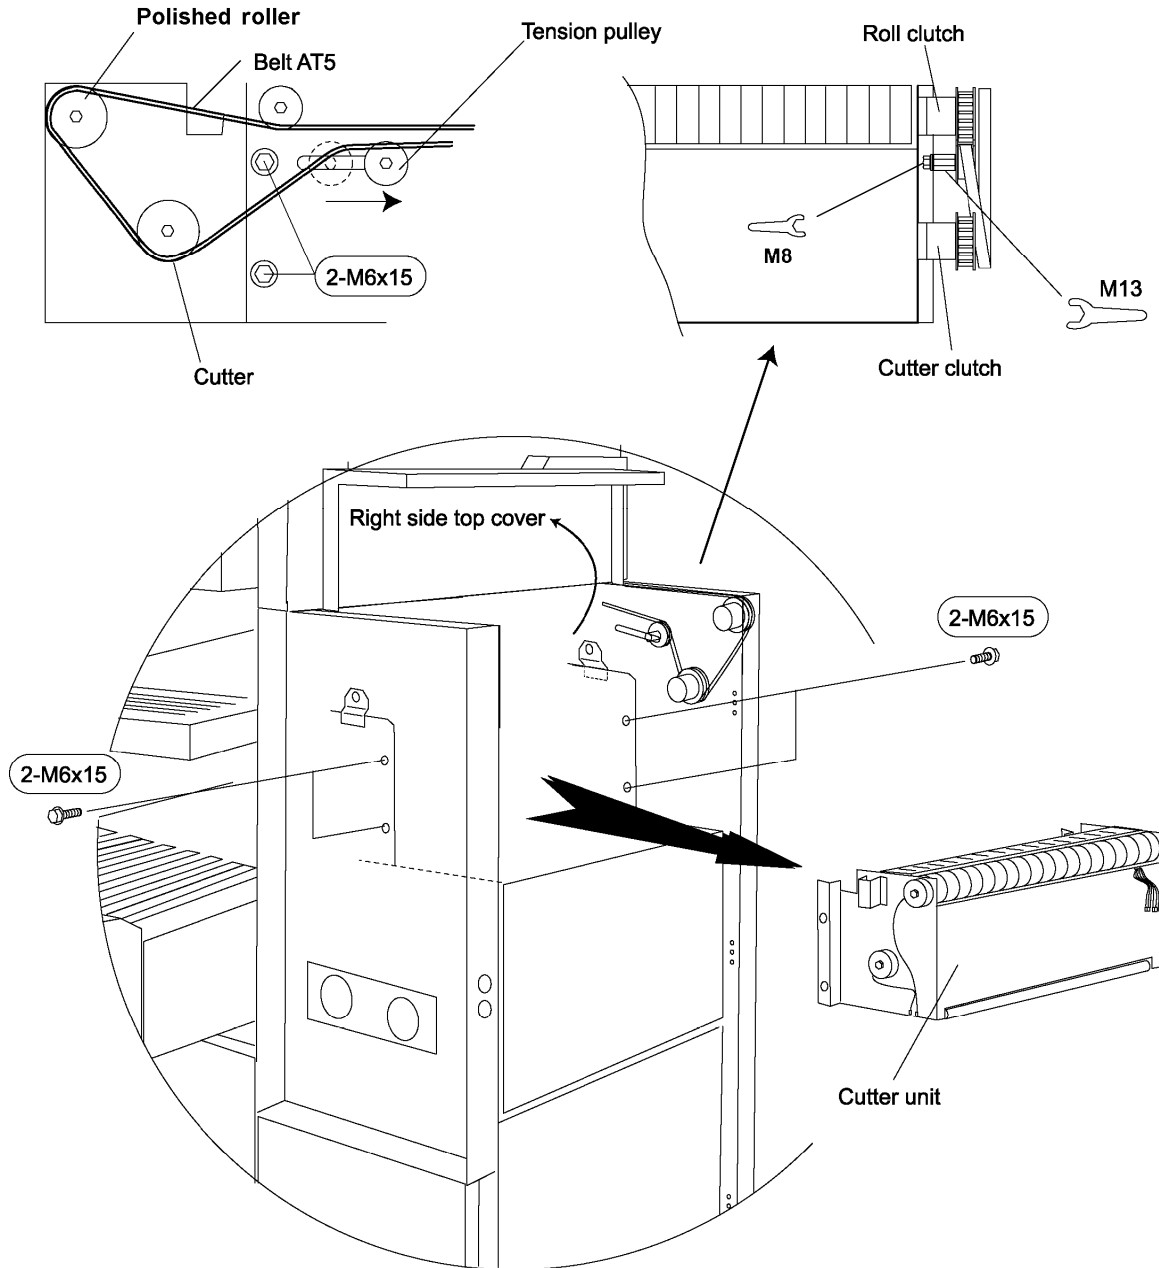

Fig. 4
For steps 16 - 18, see Fig. 4.
16. Loosen the M13 inside shaft / M10 bolt to slide the Tension pulley as shown in Fig.4.